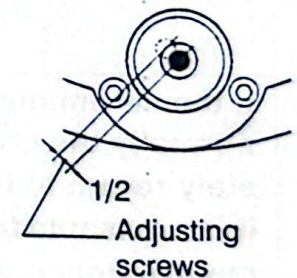

Fig.7.3
- 4) Eliminate the remaining half shift with the circular level adjusting screws ④ using the hexagonal wrench ⑩. (Fig.7.3)